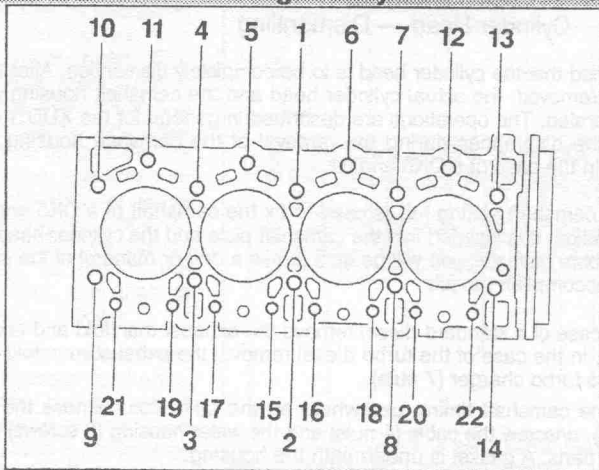

Fig. 1.31. — Tightening sequence — Cylinder head bolts.
- Slacken the cylinder head bolts in reverse order to the tightening sequence shown in Fig. 1.31. Note that bolts of 10 mm diameter and 12 mm diameter are used. Bolts 1 to 14 have the 12 mm diameter; bolts 15 to 22 have the 10 mm diameter.
- Refer to Fig. 1.31 and tighten the bolts (1) to (14) in the order shown to 5.0 kgm (36 ft.lb.). These are the 12 mm bolts.
- Tighten bolts (15) to (22) in the order shown to 3.5 kgm (25 ft.lb.). These are the 10 mm bolts.
- Without using a torque wrench, tighten each bolt in the full order (1) to (22) to an angle of 120°. A graduated disc is useful, otherwise judge the angle, based on the fact that a quarter of a turn represents 90°. *This completes the tightening of the bolts, as re-tightening is not necessary.*